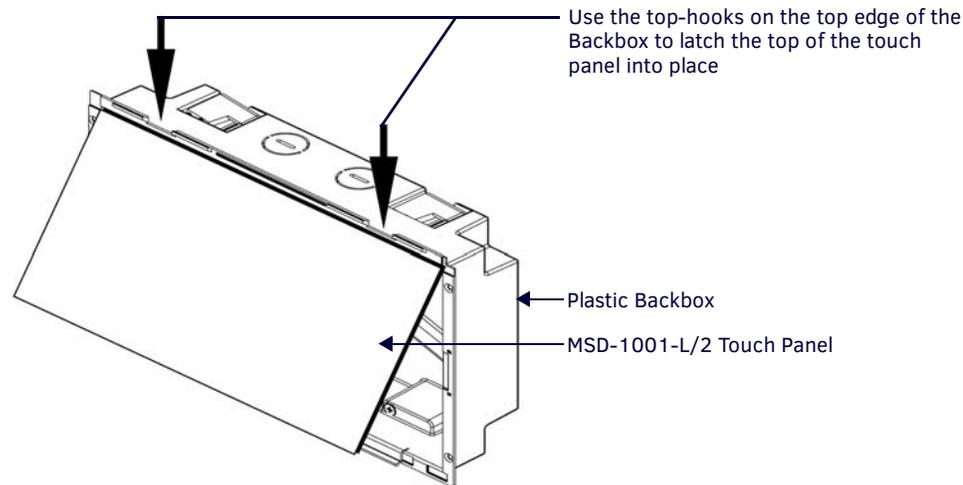

FIG. 31 Engaging the top edge of the panel with the top hooks on the Backbox
1. Center the top edge of the touch panel against the upper outside edge of the Backbox and latch the top of the panel onto the Backbox top-hooks (FIG. 31):